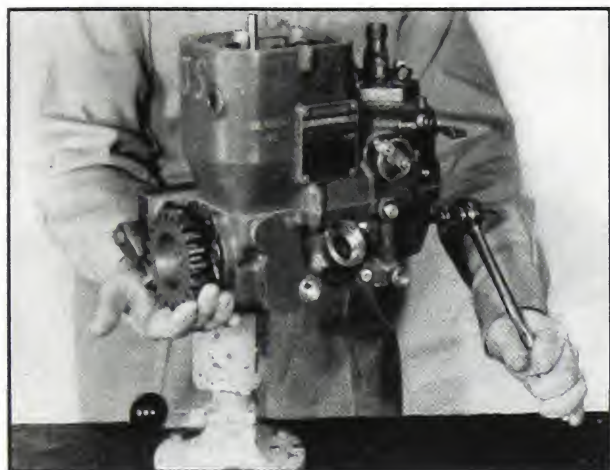

Fig. 5-342. Loosen coupling nut
3. Loosen the pump rear coupling nut and loosen the drive coupling. Make sure the disc has not moved. Fig. 5-342.